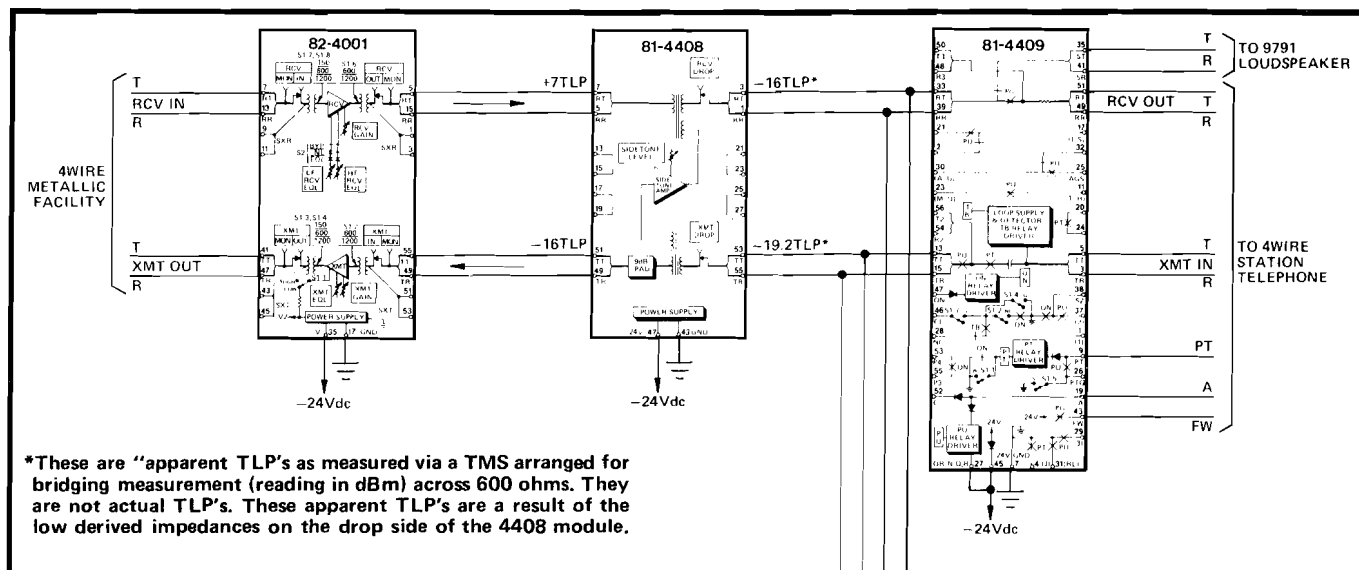

figure 2. Voice-paging conference arrangement of 4409
1.03 In a voice-paging conference arrangement of the type described above (see figure 2), a 4wire line amplifier (e.g., a Tellabs 4001) interfaces the 4wire private line with a Tellabs 4408 4Wire Line Termination module. Connected to the terminal (drop) side of the 4008 are up to twenty 4409 modules, each of which is, in turn, connected to a 4wire station telephone. Each 4409 is also connected to a voice-paging loudspeaker (e.g., a Tellabs 9791) except in cases where two stations are in close proximity and can share one loudspeaker. At the distant end of the 4wire private line is a 4wire station telephone (with an associated loudspeaker if two-way voice paging is required) or, more commonly, another voice-paging conference arrangement involving two or more 4wire station telephones and associated loudspeakers.